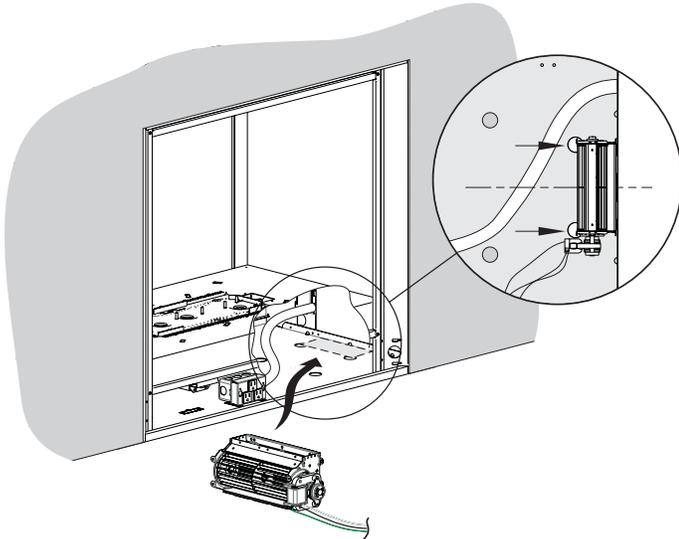

Figure 1
2. Hold the blower assembly so that the magnets are on your right side, and insert it into the unit through the opening to the right of the junction box. **See Figure 1.**
3. Attach the magnet-side of the blower assembly to the outer wall of the fireplace, and center it inside the fireplace using the two holes in the floor as a visual guide. **See Figure 1.**